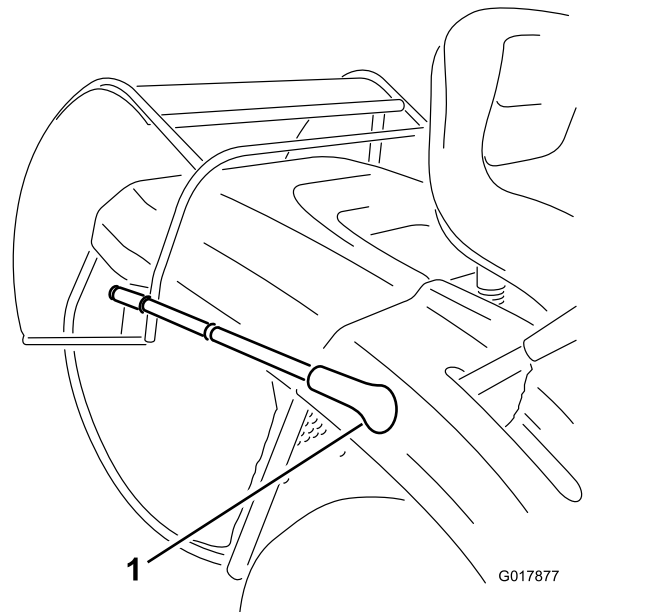
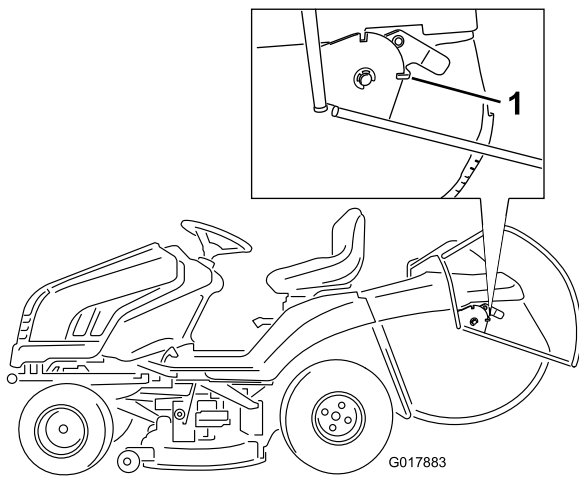

Figure 18
Figure 19
3. Pull the grass collector dump lever forward and tilt the grass collector (**Figure 18**) until the locking latch engages to lock the grass collector in the open position (**Figure 19**).